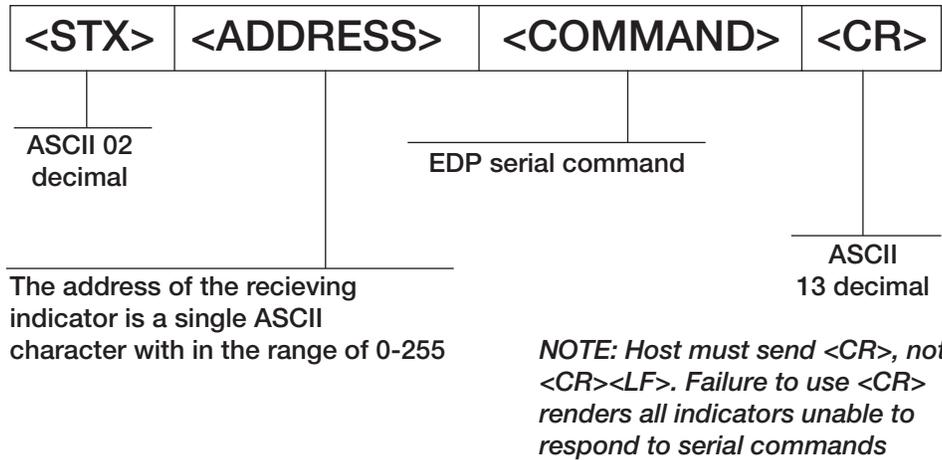

Figure 10-2. RS-485 Send Data Format
All remote commands are initiated using the data format shown in Figure 10-2:
**Example:** To send the XG#1 command from an ASCII terminal to an indicator at address 65 (decimal) on the RS-485 network, use the format shown in Figure 10-2.
- The indicator address (65) is represented by an upper case “A”.
- The carriage return (CR) character is generated by pressing the **Enter** key.